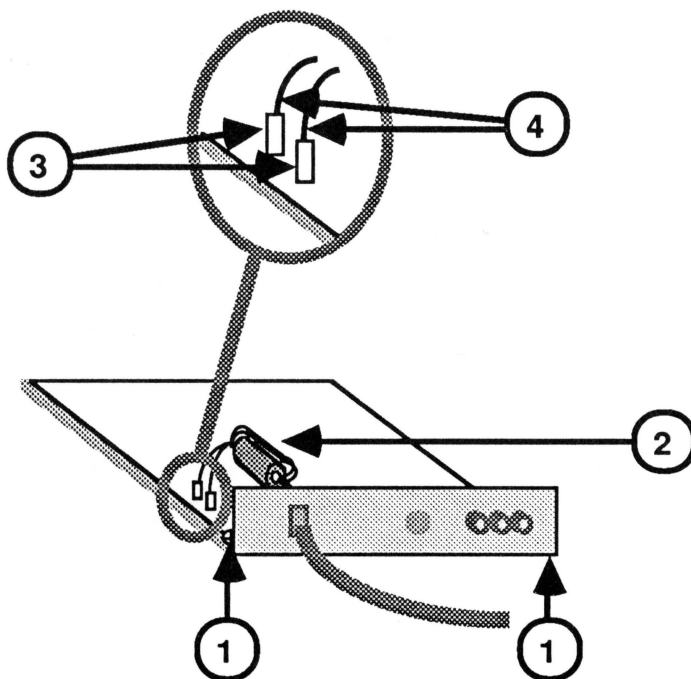

FIGURE 44
2. Remove the two screws that secure the back panel to the logic board (Figure 44, #1).
3. Remove the plastic clamp and any adhesive that holds the power wires around the ferrite bead (Figure 44, #2).
5. Locate the logic board juncture of the two AC power cable wires (black and white). (See Figure 44, #3.)
6. Cut the two power wires just above the crimp connectors that hold them to the logic board (Figure 44, #4). The rear panel and AC power cord are now free from the logic board.